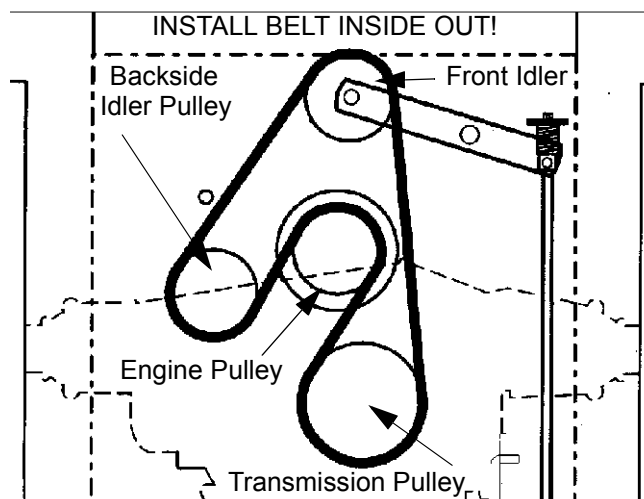

Figure 26
- 7.8. Remove the wheel drive belt from the engine sheave, backside idler and the transmission pulley. See Figure 26.